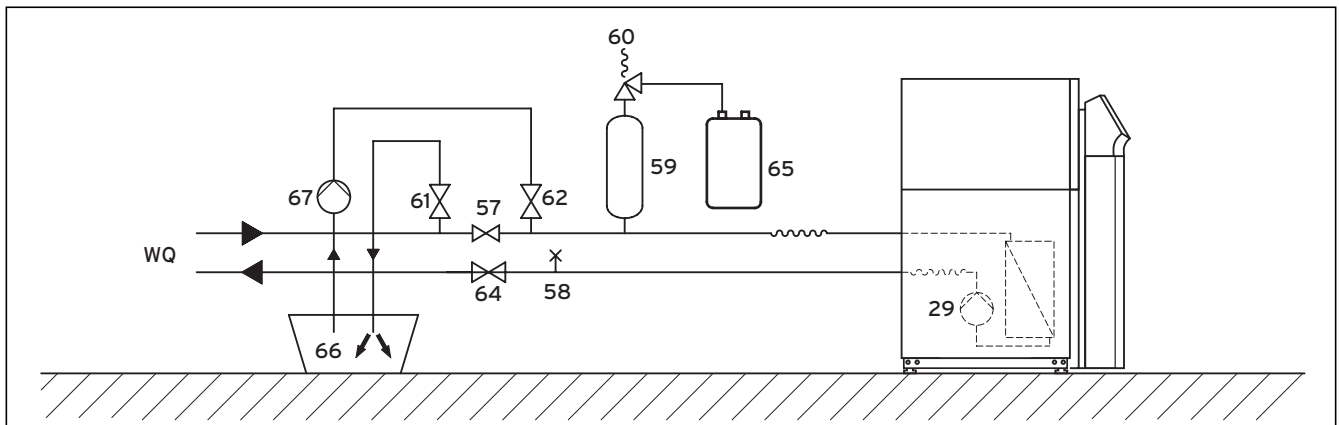

Fig. 5.1 Brine circuit
### Key to Fig. 5.1
- Mix water and antifreeze to the specified concentration in a separate container (e.g. plastic canister, see Fig. 5.1, Item **66**). Every batch of the mixture must be carefully blended.
- Then fill the brine mixture from the container (**66**) into the heat source system. This will require a filling pump (**67**) that simultaneously bleeds the collector circuit as it fills it. Vaillant recommends the Vaillant filling pump (Art.No. 307 093). Connect the pressure line of the pump to the stop valve (**62**) (see Fig. 5.1).